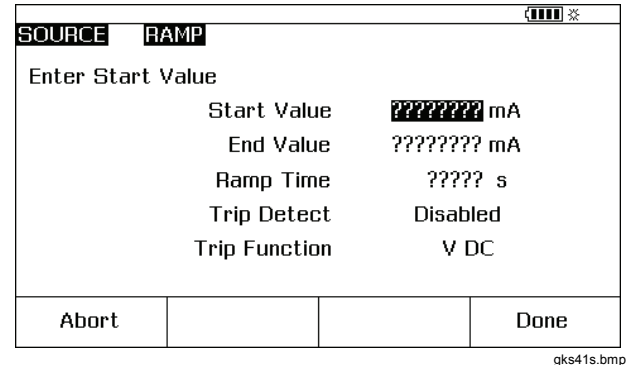

Figure 25. Ramp Screen
7. Push the **Ramp** softkey. The display changes to the screen shown Figure 25.